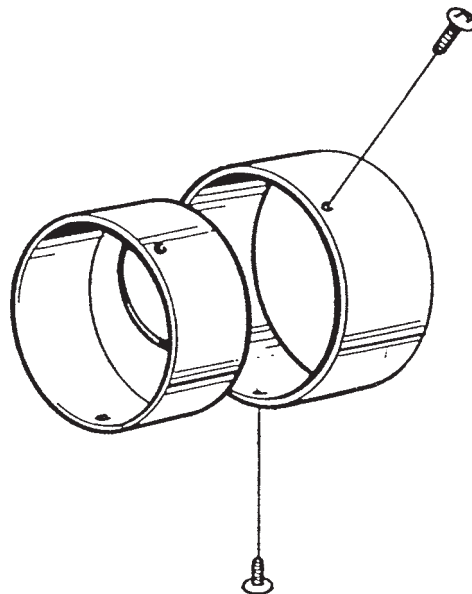

Fig. 3
5.3.1 Fit the orifice cup provided into the top (outlet) spigot of the air heater, such that the pre-drilled holes on both components line up, and the hole in the cup is at the TOP of the spigot aperture as shown in Fig. 3 and secure using the self tapping screw provided.